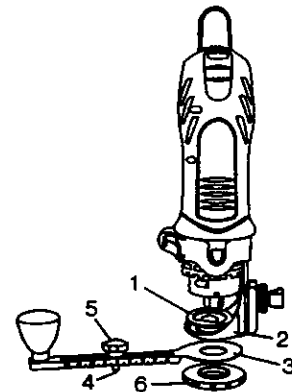

Fig. 12
- 2 Insert the externally threaded circle cutter mounting insert (1) into the bottom of the sole plate (2) (see Fig. 12).